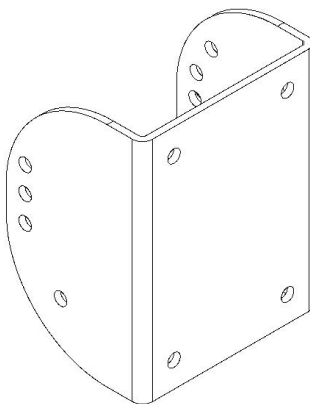

Figure 2
The loudspeaker bracket must be removed from the main bracket before mounting the pole bracket to the pole. The loudspeaker bracket is shown separately in Figure 2 below.
Mount the pole mount section (see Figure 4a below) of the bracket to the pole at the desired height on the pole. The loudspeaker bracket shown in Figure 2 should be removed prior to hanging the pole mount section. The bracket is attached to the pole using BAND-IT stainless steel bands. DO NOT SUBSTITUTE bands of other materials or other widths! **There are SIX slots on each side of the pole bracket for bands. ALL SIX LOCATIONS MUST BE USED.**
1. The loudspeaker bracket (Figure 2) should be attached to the loudspeaker's U-Bracket (ONE.SL12 or ONE.SL15's U-Bracket) only using the supplied stainless steel bolts and washers. DO NOT SUBSTITUTE ANY PARTS.